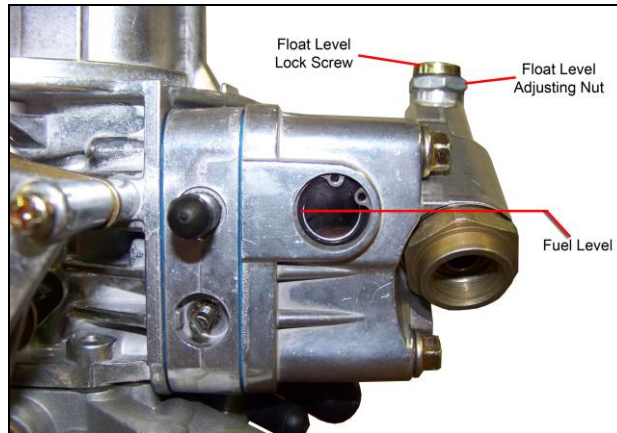

Figure 11
2. Observe the sight glass for the fuel level. If none is seen, the level is too low. If it is higher than the middle of the sight window, it is too high. **NOTE:** A properly set float level will have the fuel level located at the middle or slightly below the middle of the sight window, as shown by the line in **Figure 11**.